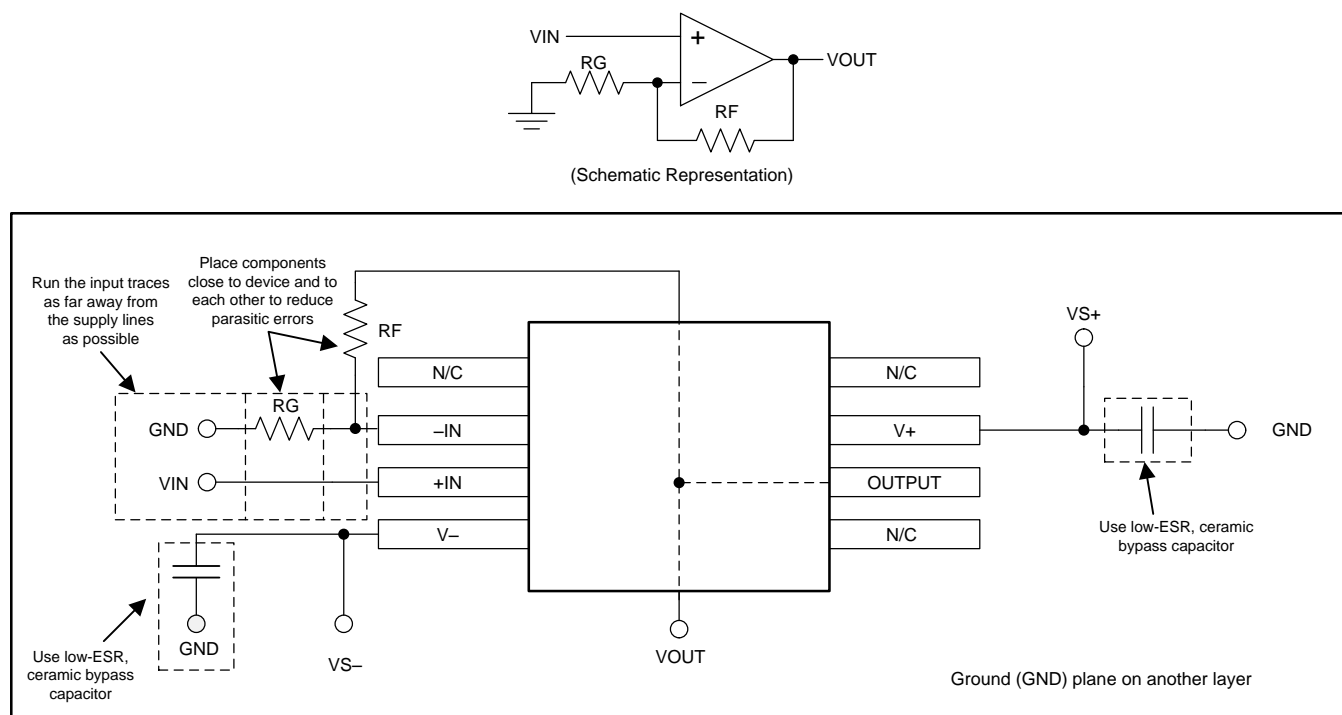

Figure 39. OPA1641-Q1 Layout Example
- Place the external components as close as possible to the device. As shown in Figure 39, keeping RF and RG close to the inverting input minimizes parasitic capacitance.